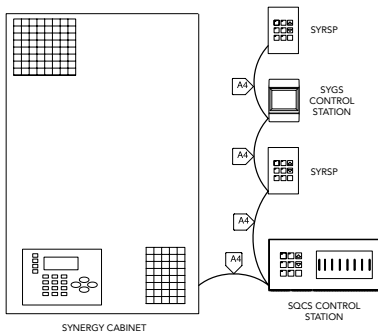

Figure 2 - SYGS Control Station One Line Drawing
4. All A4 network devices **must** be connected in a daisy chain (in and out) configuration. "T" taps or branches in the network are **NOT** permitted. See *Figure 2* on p.6.